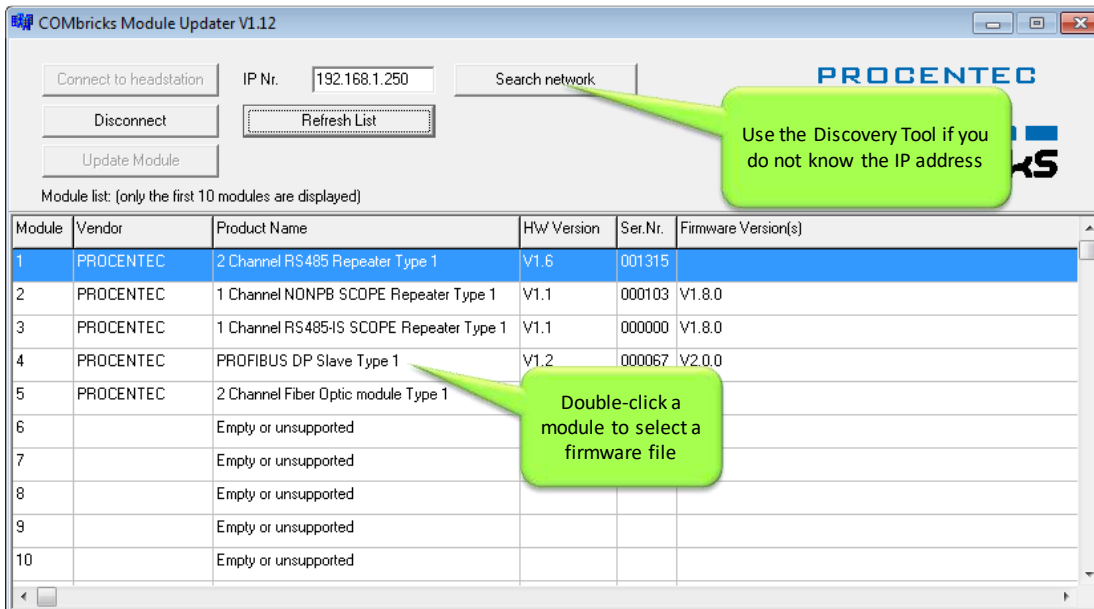
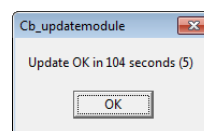

Fig. 119 - Updating module
Fig. 118 - Update complete
- STEP 6:** The tool automatically filters all unrelated firmware files; you cannot select incorrect files. Choose the firmware and click 'Open'. The firmware update will start automatically. You should see the windows as shown in **Fig. 119** and **Fig. 118**.